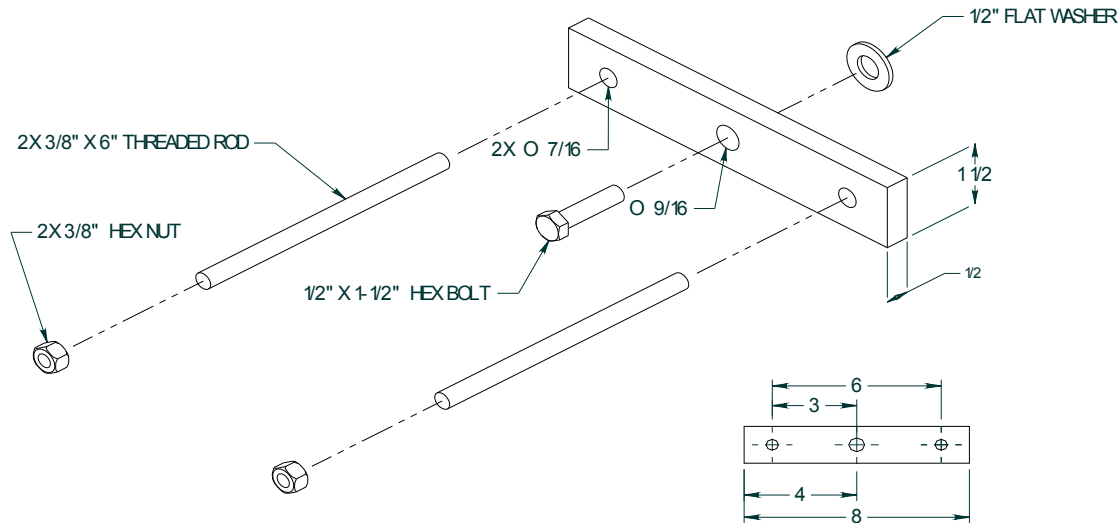
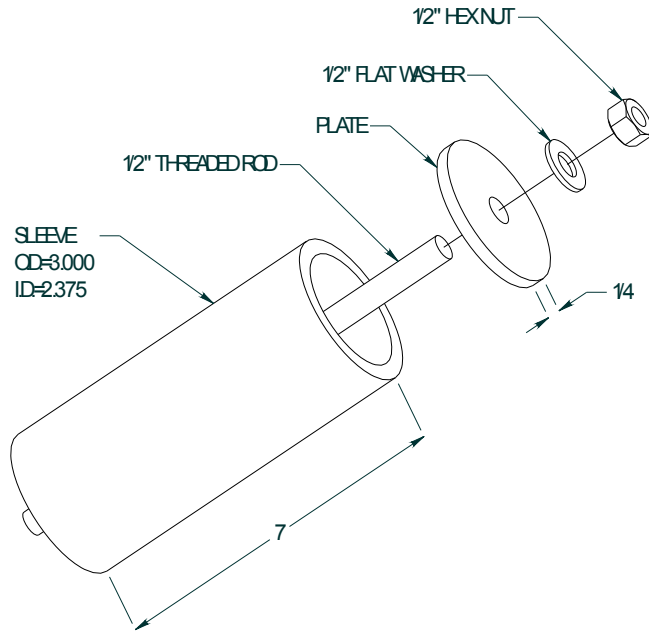

Figure 2
Figure 3
Procedures described in manual require common mechanics hand tools, a torque wrench, dial indicator and suitable lifting device (such as) slings. They also require fabrication of a strong-back as illustrated in figure 2 for bearing removal and a bearing installation tool as illustrated in figure 3.
**Do not permit idlers (17, 18) to drop as they emerge from housing (1). Be careful not to catch fingers between idler and power rotor threads.**
6. Support inboard cover (2) with a sling and overhead crane or hoist. Slowly remove inboard cover assembly from pump case (1) after removing capscrews (12). Inboard cover assembly includes inboard cover (2), power rotor (16), ball bearing (6), retaining rings (7), bushing (5), retainer (11), nylok fasteners (12), seals (30), shoulder screw (26) and inboard idlers (17).
**Be sure to grasp idlers (17) as they emerge from pump case (1) to prevent them from falling. Be careful not to catch fingers between idler and power rotor threads.**
7. Remove o-ring (4) from inboard cover (2).
8. Remove Nylok shoulder bolt (26) and allow sleeve bushing (5) to slide out of its bore and rest against the power rotor inboard thread face.
9. Remove Nylok fasteners (3) and bearing retainer plate (11).
10. Remove outer Truarc ring (7).
11. Remove bearing (6) as follows: (See Figure 2 below for Strongback drawing)
- Install threaded rods 180° apart in two bearing retainer (11) holes in inboard cover (2).
- Place ½" washer on end of power rotor (16) and then place strongback plate shown in figure 2 over threaded rods and against washer.
- Install a ½" bolt through strongback and tighten into threaded hole in end of power rotor (16).
- Install nuts on threaded rods and then thread nuts evenly to begin pressing power rotor (16) through ball bearing (6) until power rotor is completely off bearing (6).
- Once power rotor (16) is off bearing, remove 1/2" bolt and remove power rotor (16) from inboard cover (2).
Method 1: See Figure 3 for Ball Bearing Installation Sleeve Assembly.